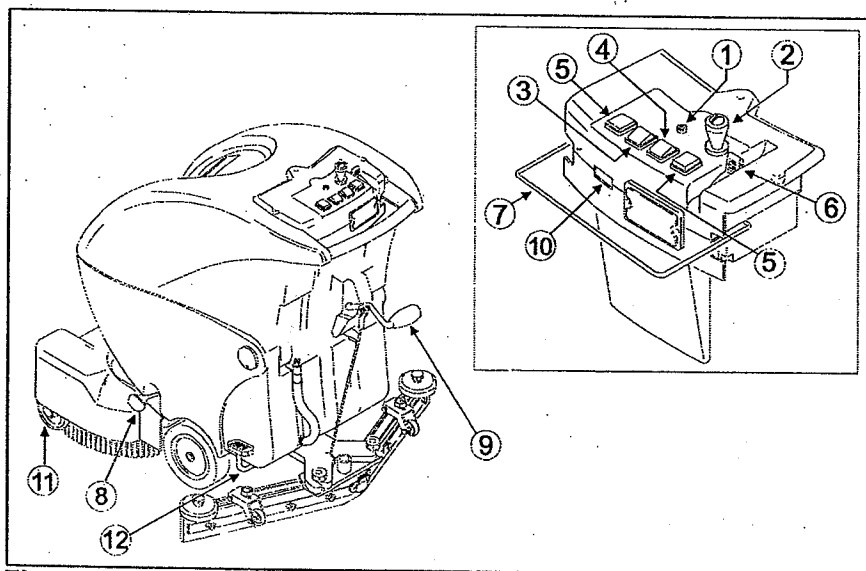

Fig. 6
With reference to fig. 6 the machine has the following controls and leds:
Feed the machine: insert and operate the key to release the emergency button (fig. 6, ref. 2) and press "1" on the brush switch (fig. 6, ref. 3).
To install the brush, lay it on the floor before the machine, stand at the rear of the scrubber and push on the handle in order to lift its front part and to lower the carriage small wheel (fig. 6, ref. 11). Go ahead (holding down the handle) and centre the flange on the brush. Lift the carriage small wheel (fig. 6, ref.11) pressing on the proper pedal (fig. 6, ref. 12), resting then the machine on the brush. Operate the brush control lever (fig. 6, ref. 7) for short instants: the brush is "screwed" in the hub automatically. If the operation is not successful, press on the handle again and repeat the centering operation pressing the brush control lever.
- check that the cock control lever (fig. 6, ref. 6) is at the position "off";
- insert and operate the key to release the emergency button (fig. 6, ref. 2), and make all the machine functions active: the power supply led lights up (fig. 6, ref. 1);
- press "1" on the main switch (fig. 6, ref. 2) to enable all the machine functions;
- move the cock lever (fig. 6, ref. 6) to the position of minimum flow of solution: the detergent solution begins to reach the brush;
- lower the squeegee by means of the proper lever (fig. 6, ref. 9);
- press "1" on the brush switch (fig. 6, ref. 3) to enable the function "Brush";
- press "1" on the suction unit switch (fig. 6, ref. 4) to start the suction motor;
- press the brush lever (fig. 6, ref. 7) beneath the handle: the brush motor starts. The brush turns and spreads the solution on the floor.
- while working, check the quality of washing and, if necessary, adjust the flow of solution sent to the brush (by turning the lever (fig. 6, ref.6)).
- *Models with battery:* if the warning led (fig. 6, ref. 1) starts flashing, it means that the storage batteries are getting flat. Therefore, it is necessary to recharge them, as there is no device blocking the total running of the machine; if you keep on working, the batteries could become damaged irreparably.
If the brush control lever (fig. 6, ref. 7) is operated intermittent for a long time, the brush motor could become overheated and therefore damaged. Moreover, in machines with cable the motor needs 2-3 seconds of rest to get started without strain. For this reason limit the "lever shots" to the sole events when they are strictly necessary.
- move the cock lever (fig. 6, ref. 6) to the position "CLOSED";
- release the brush lever (fig. 6, ref. 7) placed beneath the handle: the brush motor switches off and the machine stops;
- press "0" on the brush switch (fig. 6, ref. 3) to disable the function "Brush";
- raising the lever (fig. 6, ref. 9), lift the scrubber from the floor to prevent the drying
- let the suction motor run for at least 2 minutes to make sure that it is completely dry; then press "0" on the suction unit switch (fig. 6, ref. 4) to switch off the suction motor;